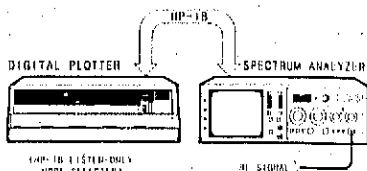

Figure 12. Digital Plotter Setup
1. Attach HP-IB cable between the HP-IB connector on the rear panel of the HP 853A and the HP-IB connector on the rear panel of the plotter, as shown in Figure 12. Set the plotter to Listen-only mode.